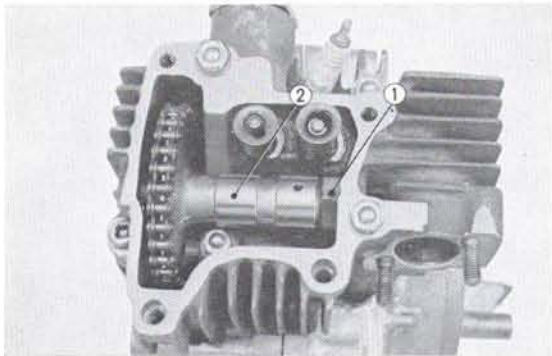

Fig. 2.24 ① 3×12 mm dowel pin
6. Align the camshaft lock pin hole with the pin hole in the cylinder head by using a screwdriver for turning and then drive in the 3×12 dowel pin. (Fig. 2.24)